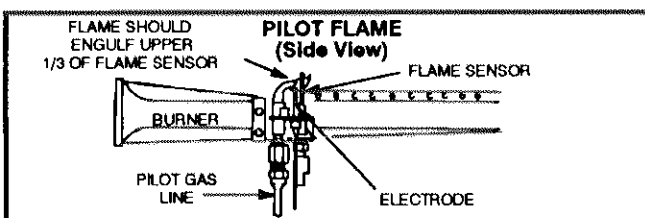

FIGURE 7
- 1- *Pilot Flame* -- Pilot flame must surround the end of thermocouple for proper operation of pilot safety circuit. See figure 7.